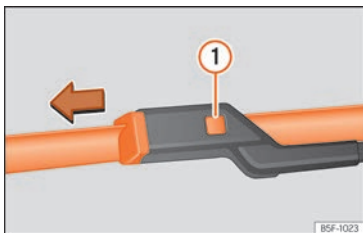

Fig. 189 Changing the windscreen wiper blades
- Press and hold release button >>> Fig. 189 ① and pull gently on the wiper blade in the direction of the arrow.